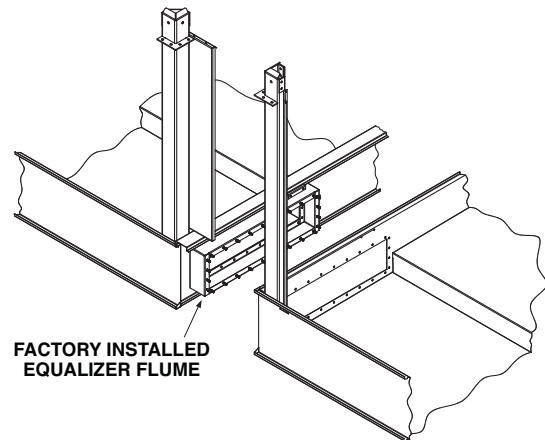

Figure 6 - Equalizer Flume Rigging Detail, 12' Wide Models
4. Rig the second basin section adjacent to the equalizer flume on the steel support as shown in Figure 6.